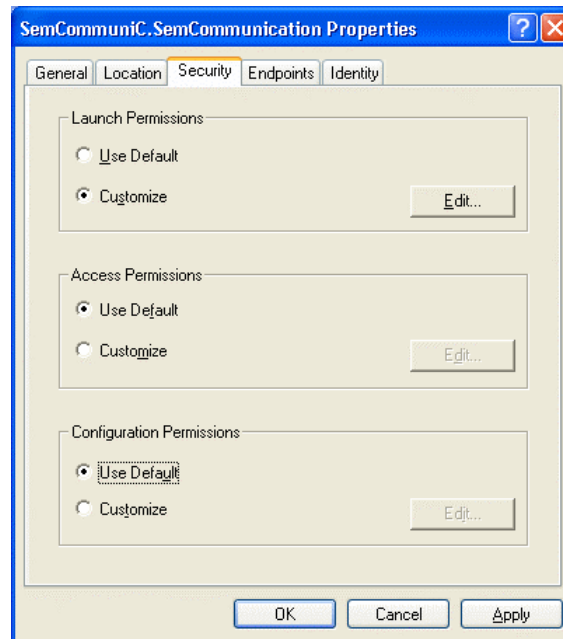

Fig. 6.3-35 Properties Window
29. Under **Security** Tab, Select **Customize** as shown in **Fig. 6.3-35**.